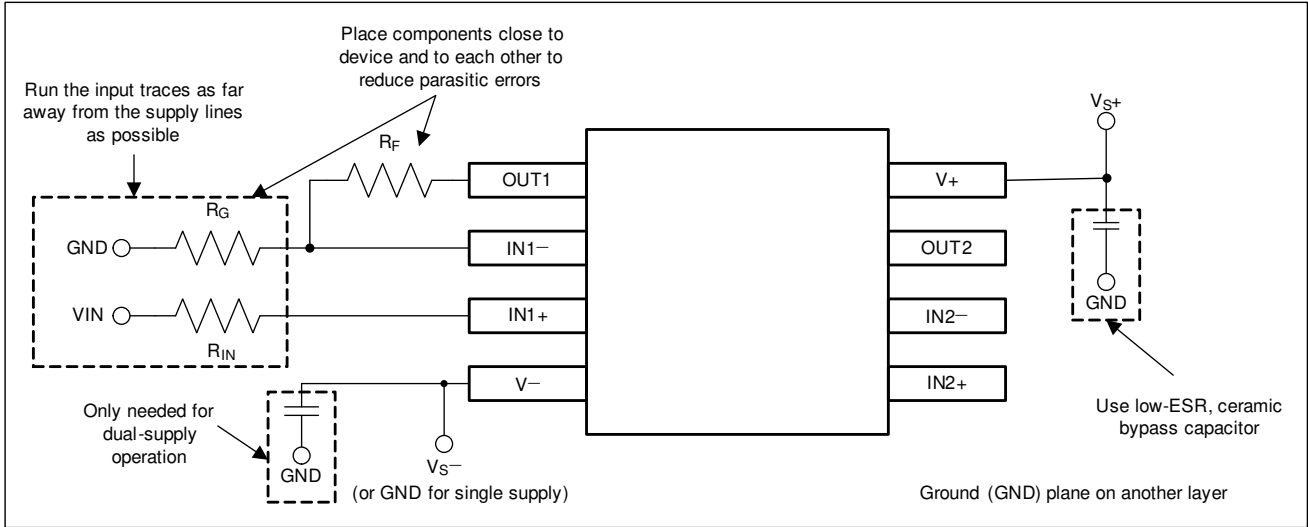

Figure 8-3. Operational Amplifier Board Layout for Noninverting Configuration
- Place the external components as close to the device as possible. Keeping R_F and R_G close to the inverting input minimizes parasitic capacitance, as shown in Figure 8-3.